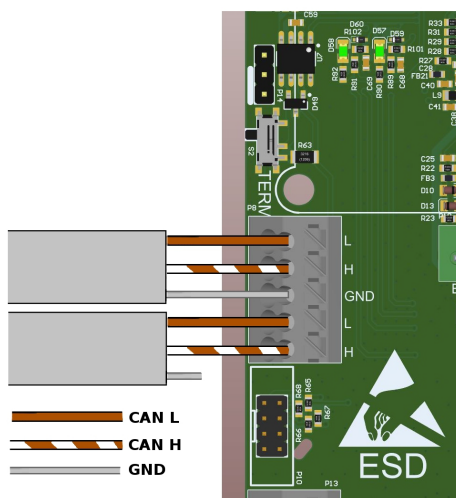

Fig. 28: Diagram of Enelion Chain communication cables connection (variant B)
4. Use termination for devices at the beginning and end of the network. In case of variant A place terminating jumper on the marked headers [Fig 28]. In case of variant B termination is done by slide the switch down, to show white square. In alternate version, if there is no switch, place a jumper on two pins in the header inside the charger marked by white line [Fig. 29].